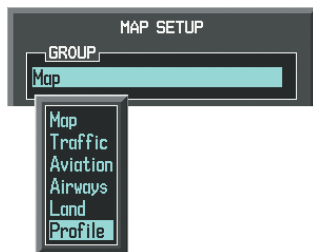

Figure 6-124 Navigation Map Page Setup Menu
- 4) Turn the small **FMS** Knob to select the 'Profile' Group and press the **ENT** Key (Figure 6-124).